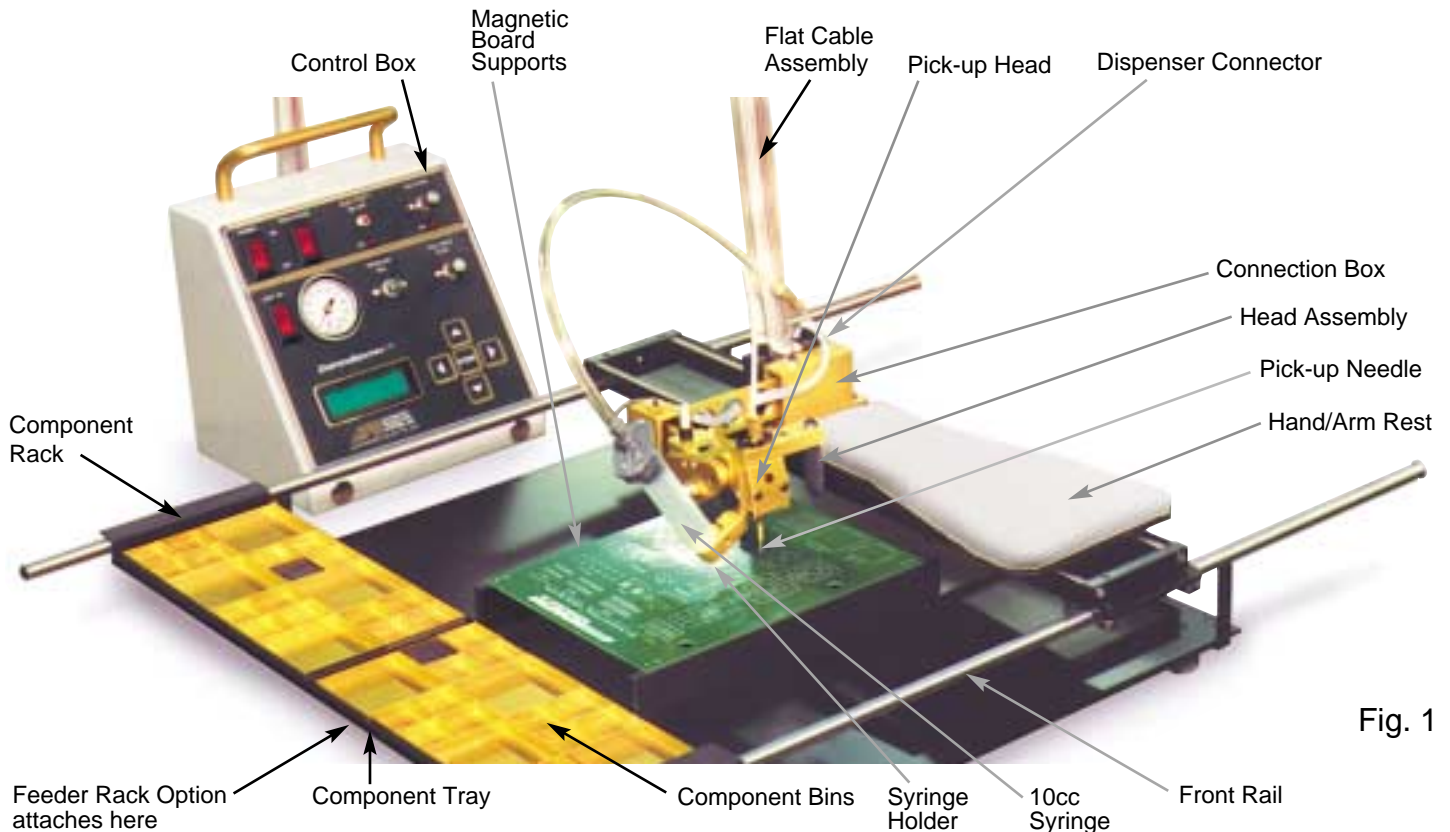

Fig. 1
### III.SET-UP AND INSTALLATION (Refer to Figs. 1, & 2)
8. Place component rack on rails and ensure that it slides properly (refer to Fig. 1).
9. Place (2) component trays in component rack and ensure that bins are seated properly in trays.
#### IV. PICK & PLACE OPERATION (Refer to Fig. 1.)